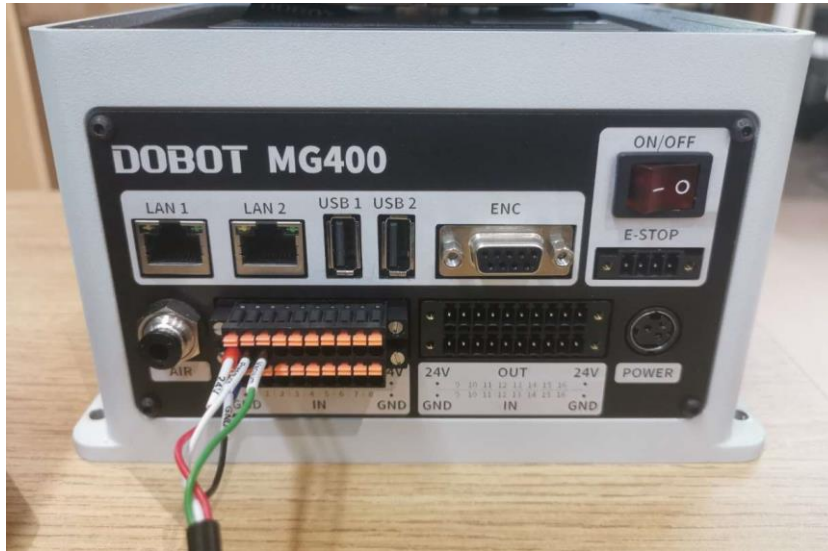

Figure 2.8 Connect gripper cable to MG400
**Step 8** Connect the gripper cable to MG400, as shown in Figure 2.8. Connect 24V and GND port of gripper cable to 24V and GND port of MG400 respectively. Connect Pressure and Vacuum port to any DO port of MG400.